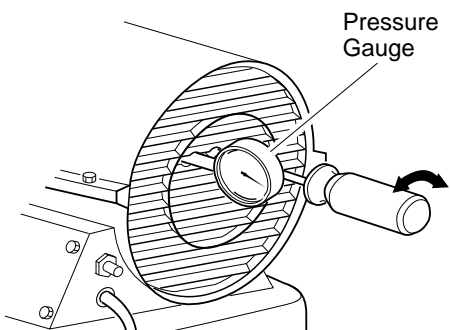

Figure 8 - Adjusting Pump Pressure
14. Place fine grade sandpaper (600 grit) on flat surface. Sand rotor lightly in "figure 8" motion four times (see Figure 16).